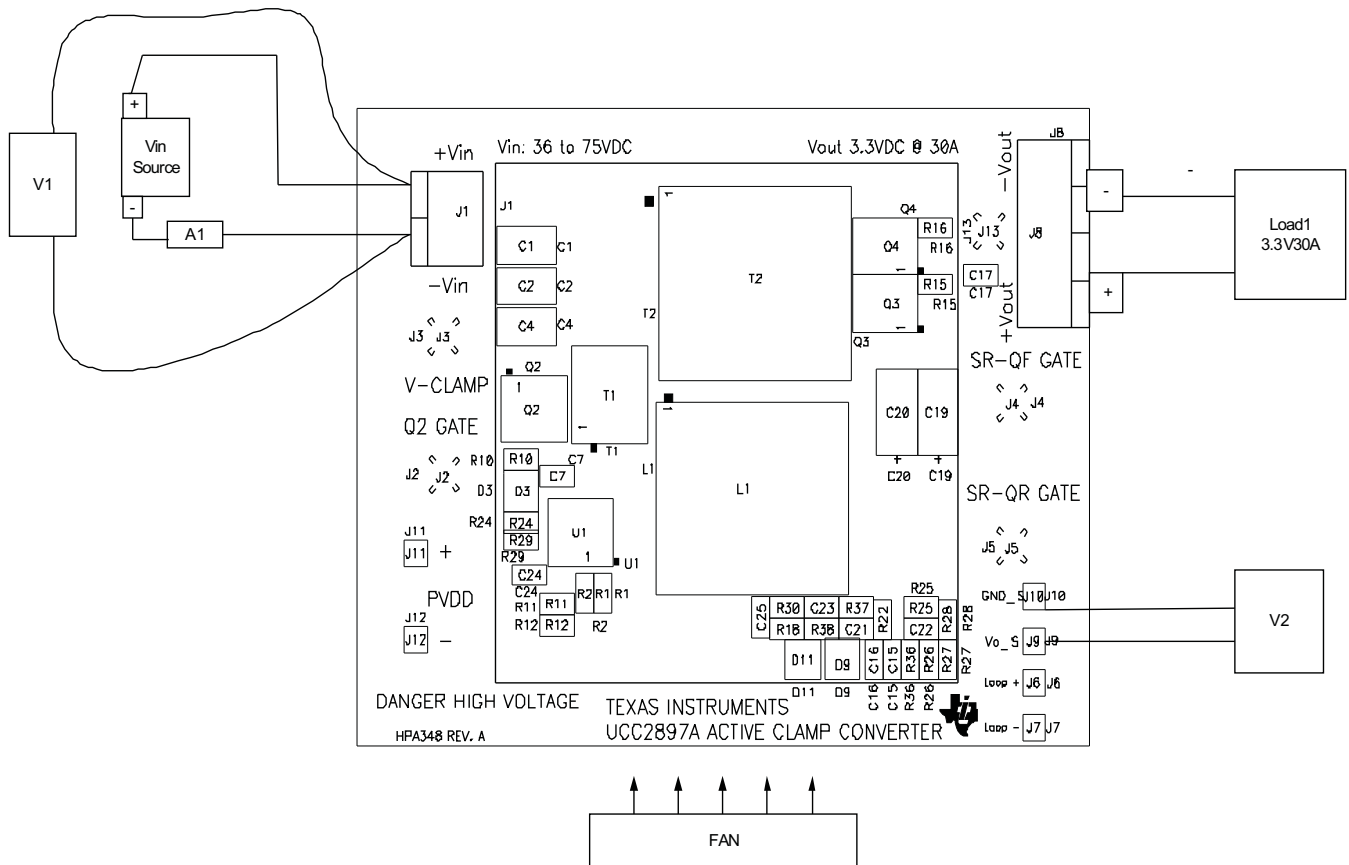

Figure 2. Recommended Test Set Up
Voltage Source, VIN: The input voltage shall be a variable DC source capable of supplying between 0 V_{DC} and 75 V_{DC} at no less than 3.5 A_{DC} , and connected to J1 and A1 as shown in Figure 2. For fault protection to the unit, good common practice is to limit the source current to no more than 3.5 A_{DC} for a 36-V input. A DC ammeter, A1 should also be inserted between VIN and J1 as shown in Figure 2. For highest accuracy, such as gathering efficiency data, V_{IN} should be measured directly across the input capacitor.
2. Prior to connecting the DC input source, V_{IN} , it is advisable to limit the source current from V_{IN} to 3.5 A maximum. Make sure V_{IN} is initially set to 0 V and connected to J1 as shown in Figure 2.
3. Connect the ammeter A1 (0 A to 10 A range) between V_{IN} and J1 as shown in Figure 2.
4. Connect voltmeter (can optionally use voltmeter from V_{IN} source if available), V1 across V_{IN} as shown in Figure 2.
5. Connect LOAD1 to J8 as shown in Figure 2. Set LOAD1 to constant current mode to sink 0 A_{DC} before V_{IN} is applied.
6. Connect voltmeter, V2 across J9 and J10 as shown in Figure 2.